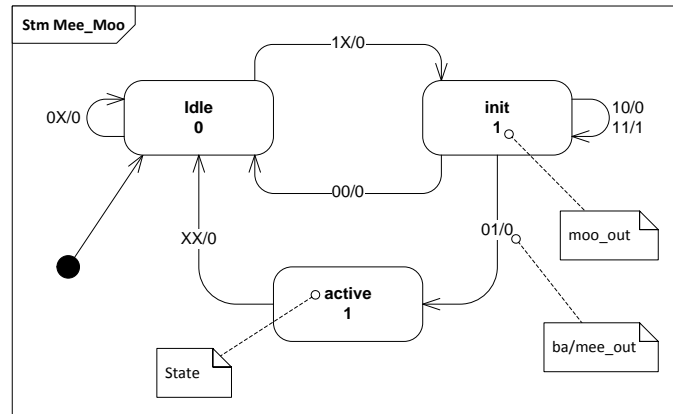
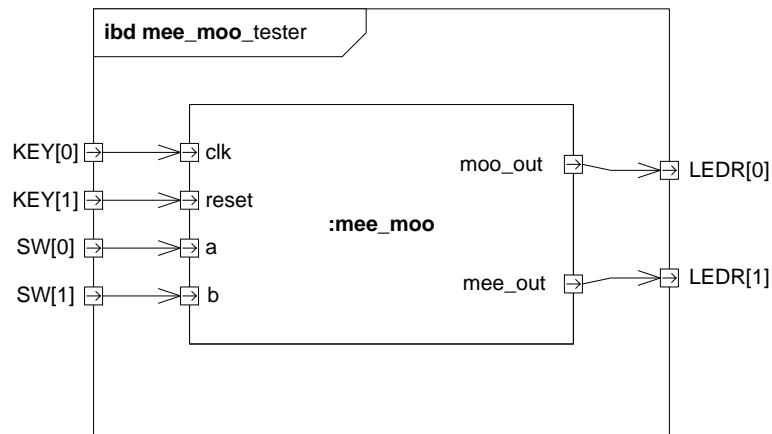

FIGURE 1 MEE MOO STATE MACHINE DIAGRAM
FIGURE 2 MEE MOO TESTER IBD
- 1) Implement the state-diagram for the MeeMoo state machine illustrated in Figure 1 using the three process template in the book. The diagram has both Moore and Mealy outputs with conditional and unconditional transitions. In other words: if you can solve this exercise you will actually be able to implement VHDL code for both state machine types! Use the interface described in Figure 2. Compile your design in Quartus II and view the output in the Netlist Viewers->State Machine Viewer. *How does it compare with your design?*